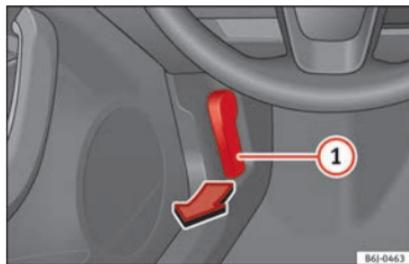

Fig. 5 Release lever in the driver's footwell area.
- Opening the bonnet: Pull the lever under the dashboard »» Fig. 5 ①.